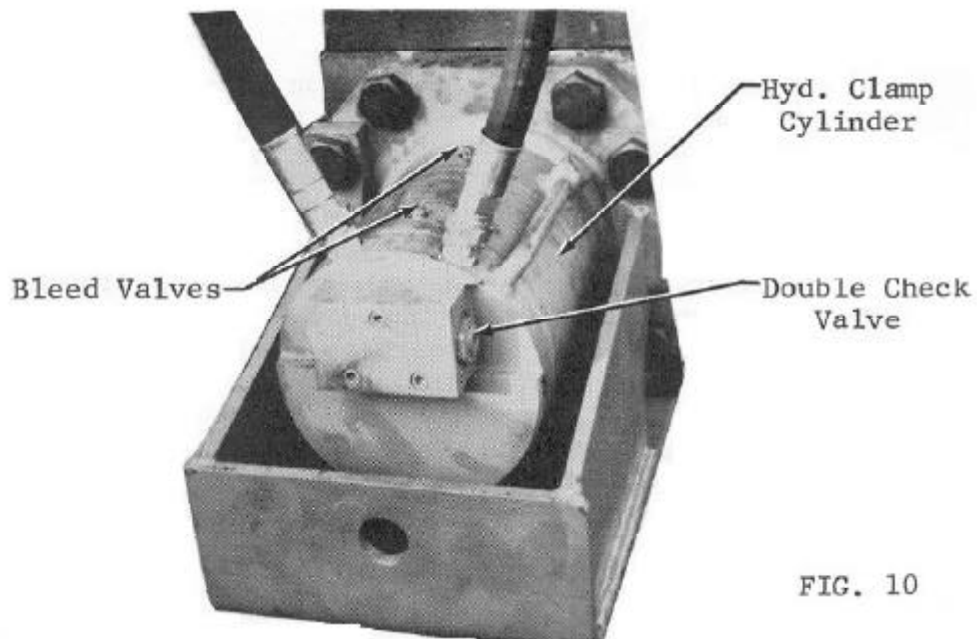

FIG. 10
8. The V-5/HP-105B System is shipped from the factory with the hydraulic reservoir of the HP-105B, the hose bundle and the V-5 Vibrator lines and components filled with hydraulic fluid. Whenever the system has been completely or partially drained (as when a new hose section is replaced in the hose bundle), the hydraulic lines must be purged of air. To purge the motor lines, with hoses connected to the V-5 and HP-105B, run the engine at idle speed, 800-1000 RPM, and pull vibrator handle for vibrate mode. Hydraulic oil may have to be added to the hydraulic tank. To purge the clamp lines, bleed the hydraulic clamp cylinder at the high pressure side of the cylinder. It is necessary to run the engine at full speed when bleeding the clamp cylinder with clamp valve engaged because full flow will be over relief. Ref. Fig. 10, Page 20.